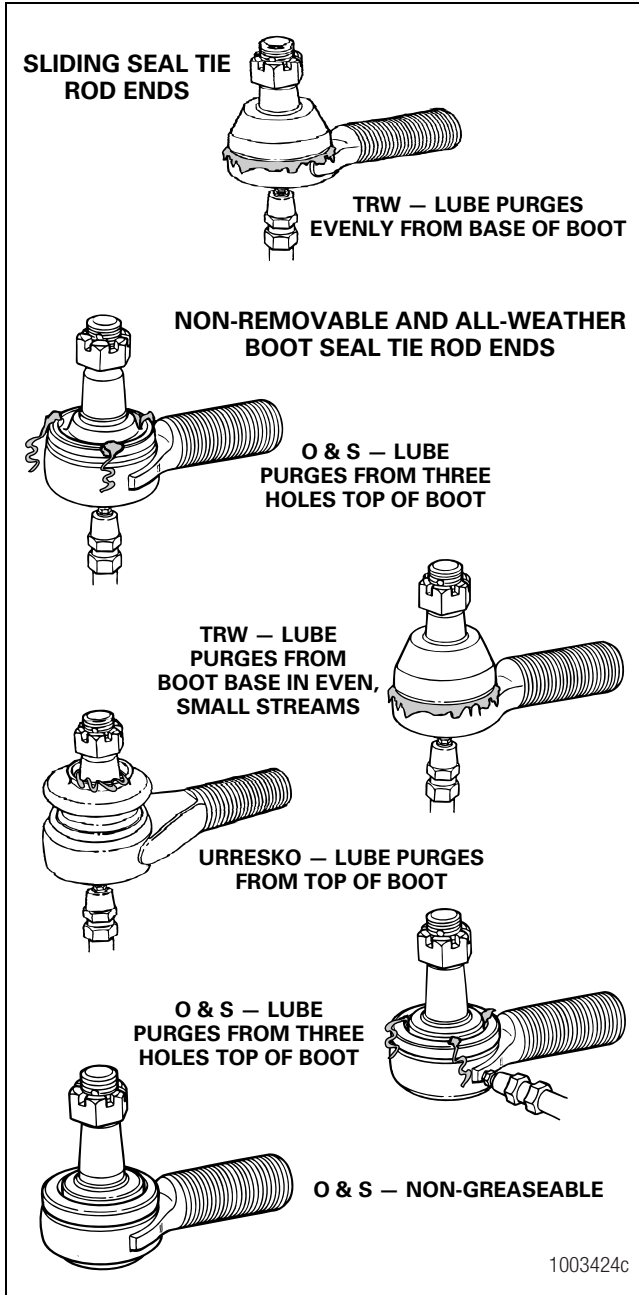

Figure 6.28
- Apply grease into the grease fitting. Discolored old grease should come out of the purge holes near the boot crimp or bellows area, typically three or more places. Figure 6.28.